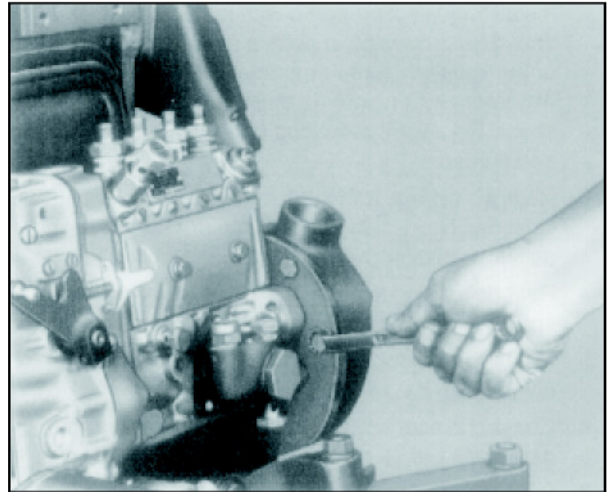

Fig. 2
6. Unscrew the screws holding fuel injection pump on timing gear housing Fig. 2 and remove fuel injection pump. Fig. 3.